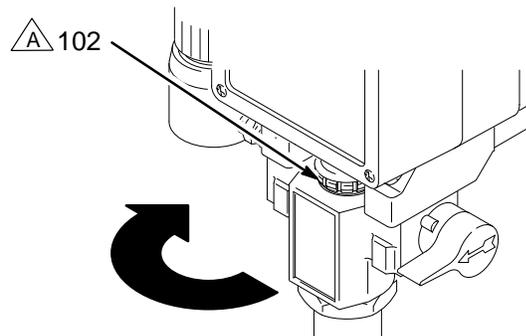

Fig. 10
1. Check the packing nut/wet-cup (102) daily. Relieve pressure first. Keep the wet-cup 1/3 full of TSL at all times to help prevent fluid buildup on the piston rod and premature wear of packings.
2. Tighten the packing nut/wet-cup (102) just enough to stop leakage. Over-tightening causes binding and excessive packing wear. Use a round punch or brass rod and a light hammer to adjust the nut. See Fig. 10.